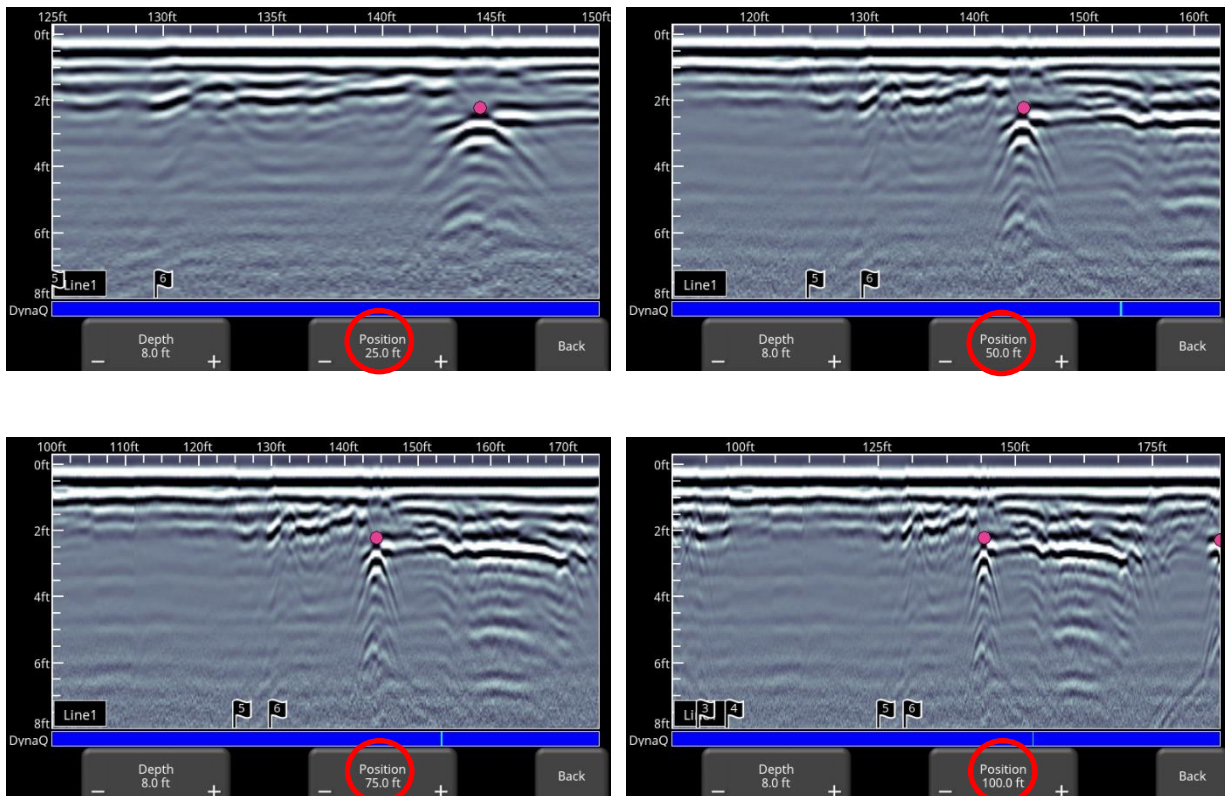

Figure 6-13: Varying position, or horizontal scaling
- **Position** – Pressing **+** and **-** under the **Position** button allows you to change the length of data displayed on a single screen. This is also known as horizontal scaling. The pre-set values range from 10m to 30m (25' to 100'), see Figure 6-13. One reason for setting this to 30m would be to fit more data on the screen and look for consistency among hyperbolas that were crossed.